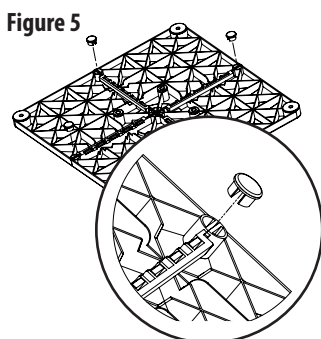

Figure 5
2. Turn base upside-down and snap the side foot locks into the circle slots located towards the outer edges of each seam. FIGURE 5